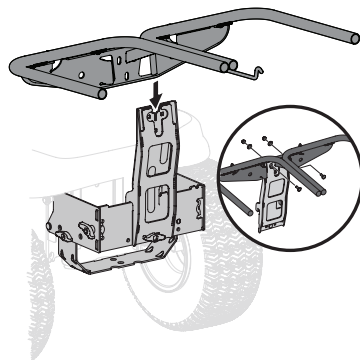

Figure 10
1. Install and secure the hanger assembly (683-04461C) onto the vertical bagger support using two carriage bolts (710-0276), two cup washers (736-0242) and two flange lock nuts (712-04063) from hardware pack 689-02364. Figure 10.